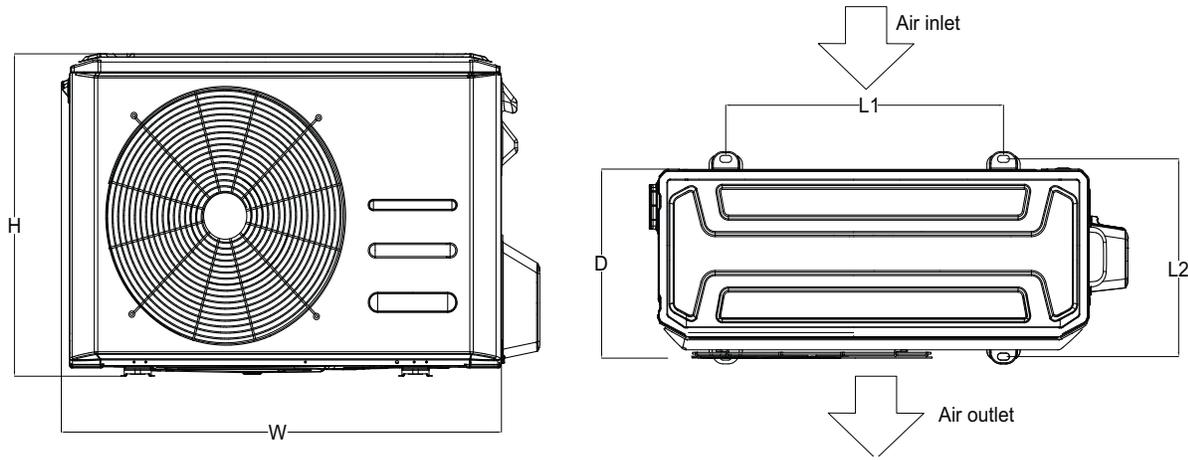

Fig. 3 — Outdoor Unit
2. Use a rigid base to support the unit in a level position. If conditions or local codes require the unit be attached to a pad, tie down bolts should be used and fastened through knockouts provided in unit base pan. Refer to unit mounting pattern in Fig. 3 to determine base pan size and knockout hole location. For hurricane tie downs, contact distributor for details and PE (Professional Engineer) Certification, if required. For extreme outdoor conditions applications refer to the 'Cold Climate Application Guideline Ductless.